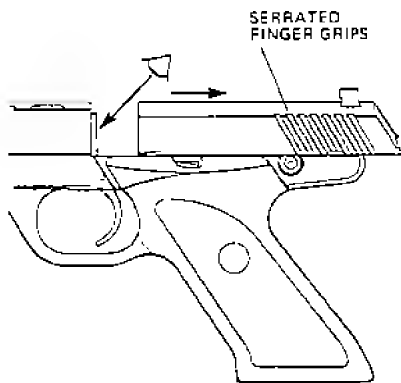

FIGURE 7. LOOKING IN CHAMBER TO ENSURE IT IS EMPTY
3. Hold pistol by its grip with one hand. Keeping other hand clear of the chamber area, grasp serrated finger grips on sides of slide. Pull slide back slightly and LOOK IN CHAMBER TO ENSURE IT IS EMPTY. Allow slide to return forward . . . see Figure 7. (If slide was fully to rear, after ensuring chamber is empty, press down on slide stop to release slide. Keeping empty pistol pointed in a safe direction squeeze trigger to release the cocked striker.)